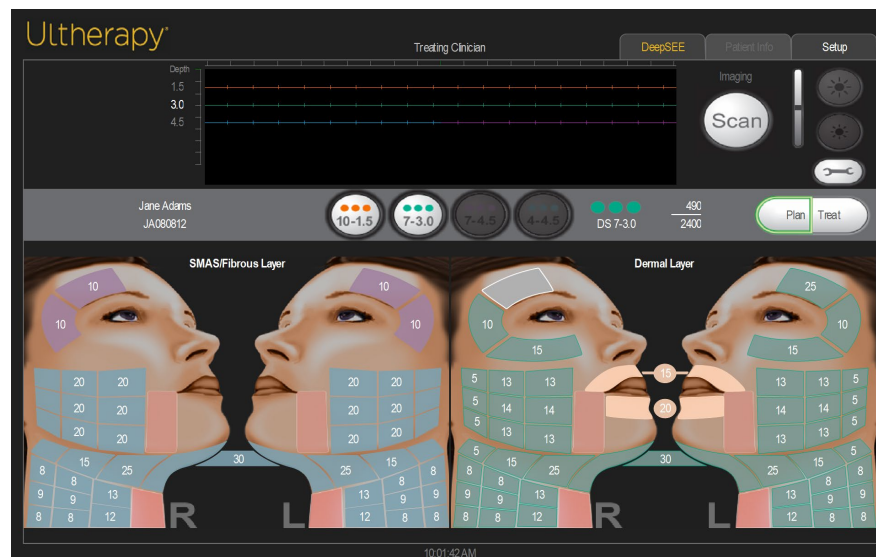

Figure 7.15 Gray color region after being disabled
10. If a region is disabled because the transducer selection in the middle of the panel was manually deactivated, this region will be displayed as gray in Plan Mode as shown in Figure 7.15. To reactivate region, select the unavailable region and choose an available transducer option from the panel in the middle. The region will appear white as it is being edited.